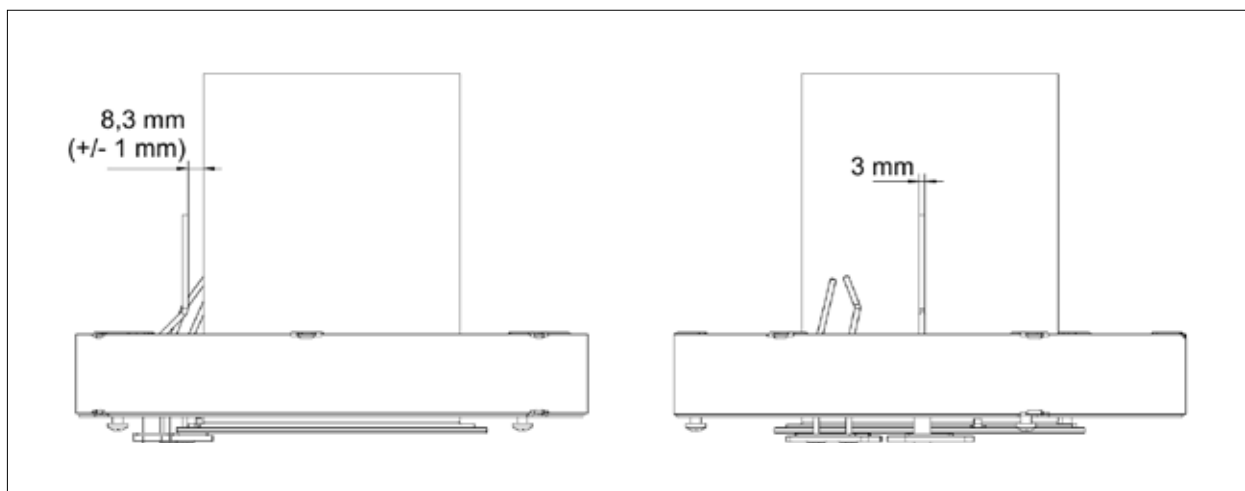

Fig. 6.4 Ionisation electrode gaps
- ▶ Check the gaps in accordance with Fig. 6.4 .